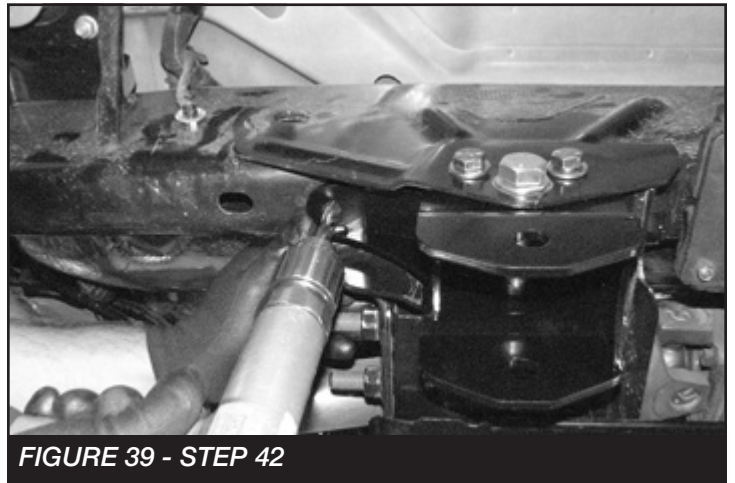

FIGURE 39 - STEP 42
42. Using the Fabtech the radius arm drop bracket as a drill guide, drill a 1/2 hole through the bottom of the frame. **SEE FIGURE 39**